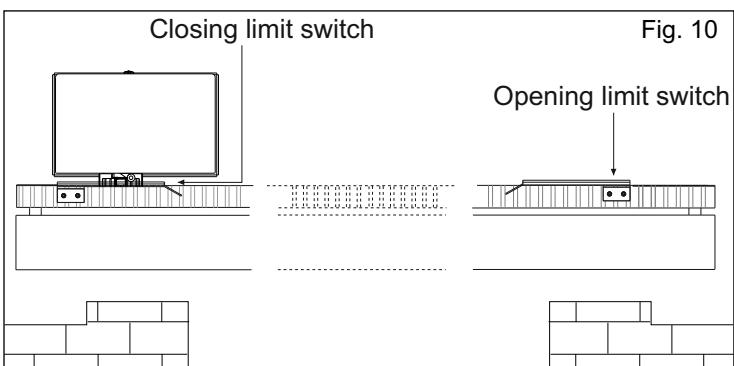

Fig. 10
**6.1.** To set up and adjust the limit switches in opening, follow the instructions written here (Fig. 10):